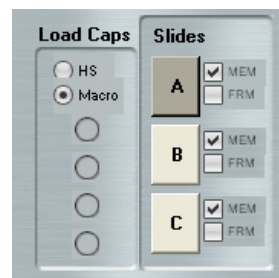

Figure 39 Cap and slide handling area.
1. To the left of the slide overview image, in the cap and slide handling area at the bottom of the screen, tap the **Slide** button (see Figure 39) for the slide of interest.
You can view the slide type in the cap and slide handling area to the left of the slide overview image (see Figure 39).